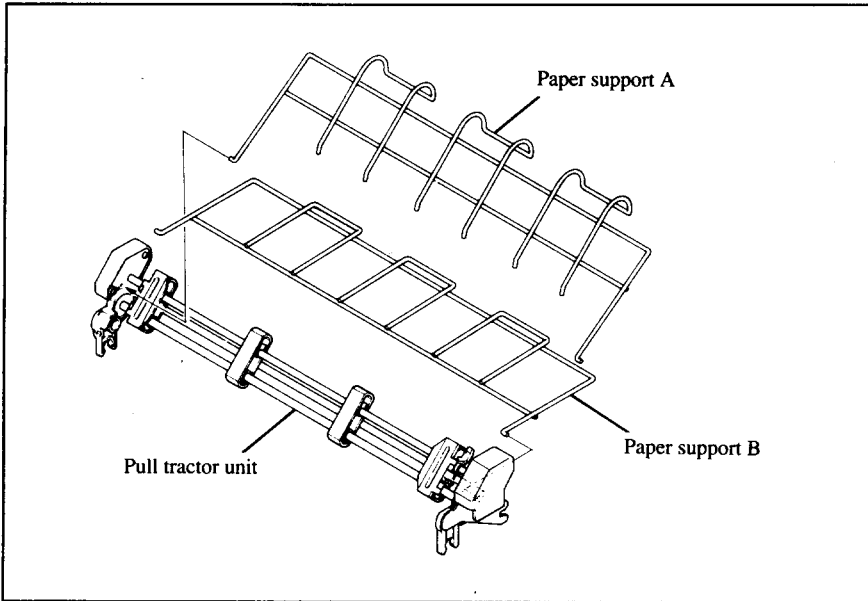

Figure 3-10. Mount the paper support A and B onto the Pull Tractor Unit.
4. Squeeze the sides of the paper supports lightly, and insert into the holes on both side of the Pull Tractor Unit as shown in Figure 3-10.